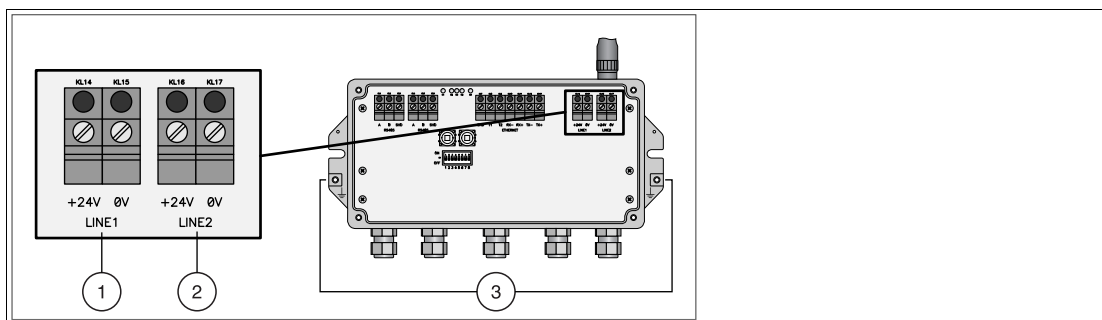

Figure 3.10 Power supply
1. Connect one of the grounding terminals to a ground wire. → see Figure 3.10 on page 30
→ see Figure 3.10 on page 30